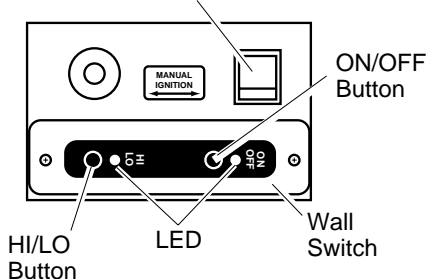

Figure 50 - Control Locations
6. While holding the valve handle in the PILOT position, press and release piezo ignitor button (see Figure 50, page 21). This will light the pilot. If needed, keep pressing ignitor button until pilot lights.